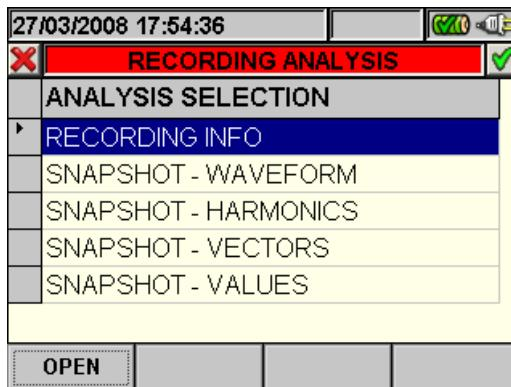

Fig. 114: Recording analysis (Instant-type data)
2. Press the **ESC** key (or the smart icon  on the display) to exit the function and go back to the “Recording analysis” page (Fig. 114).
- The **ESC** key (or the smart icon  on the display) to exit the function and go back to the "Recording analysis" page (Fig. 114).
- The **ESC** key (or the smart icon  on the display) to exit the function and go back to the "Recording analysis" page (Fig. 114)